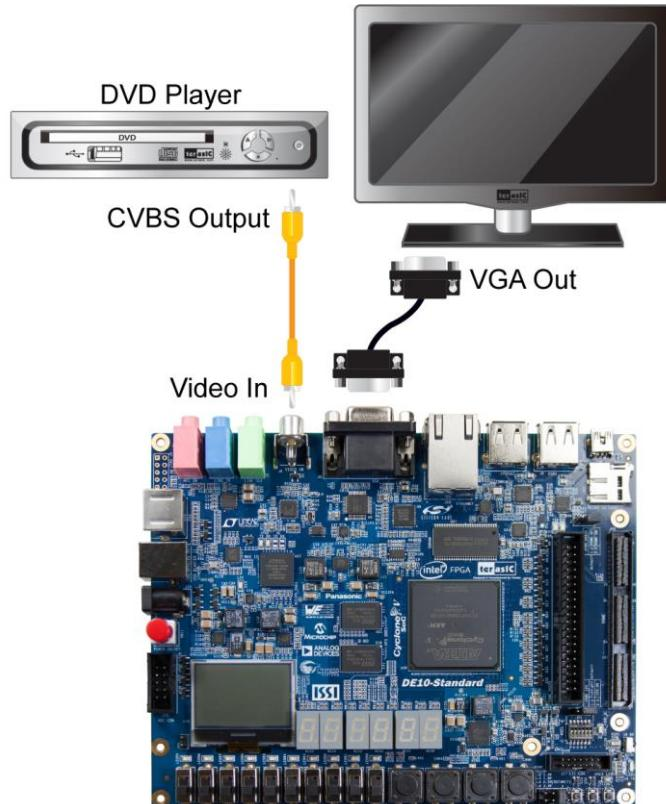

Figure 5-12 Setup for the TV box demonstration (VIP)
- Connect a DVD player's composite video output (yellow plug) to the Video-input RCA jack (J6) on the DE10_Standard board, as shown in Figure 5-12. The DVD player has to be configured to provide: NTSC or PAL output, 60Hz refresh rate, 4:3 aspect ratio, Non-progressive video